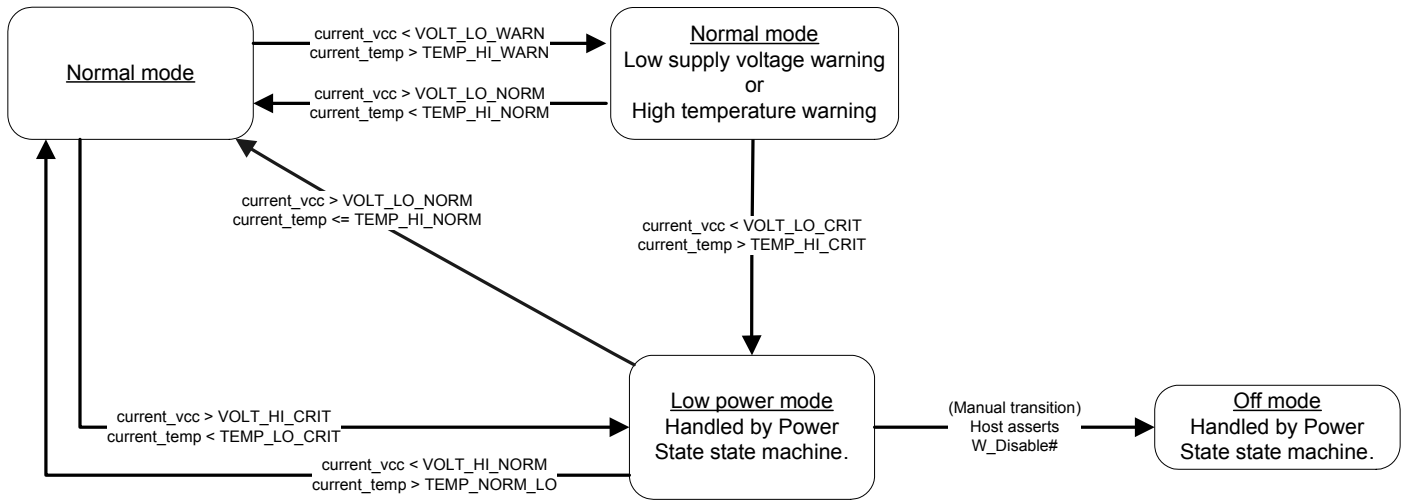

Figure 6-1: Automatic ('triggered') power state transitions
- Automatically, when critical supply voltage or module temperature trigger levels are encountered. See Figure 6-1 for details.